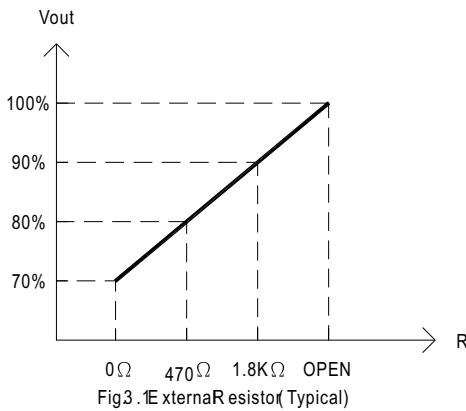

Fig 3.1 External Resistor (Typical)
- (1) Adjustment of output voltage is possible between 70~100% (Typ. value) of the rated output voltage as shown in Fig 3.1